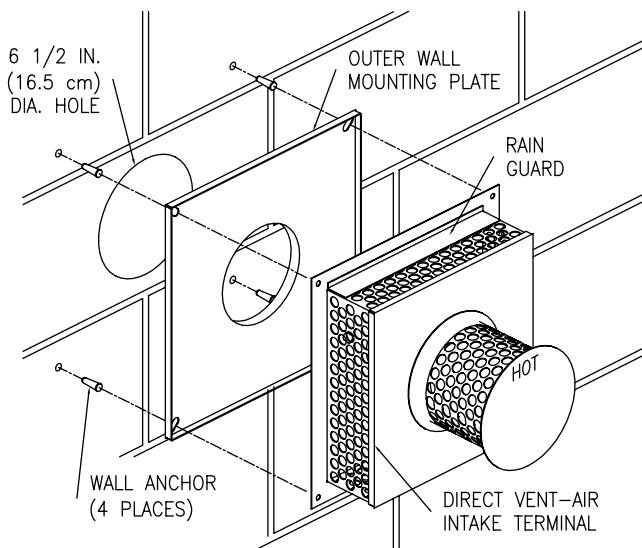

Figure 4
3. Cut a 6-1/2 inch (16.5 cm) diameter minimum clearance hole in the wall at the point where the vent-air intake tubes will pass through the outside wall and connect with the direct vent-air intake terminal (See Figure 4).
4. From outside the building, position the outer wall mount plate and direct vent-air intake terminal over the center of the opening. Mark the mounting screw hole locations. With a 3/16 inch (4.5 mm) diameter drill bit (not supplied), drill holes for the wall anchors (supplied). Install the wall anchors but **DO NOT** affix the outer wall mount plate and direct vent-air intake terminal to the wall at this time (See Figure 4). Note: Certain construction of walls may require the use of a different type of wall anchoring means than supplied. **DO NOT** modify the direct vent-air intake terminal or outer wall mount plate.